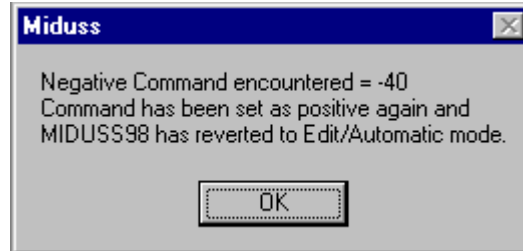

Figure 11-38 – Message displayed when MIDUSS 98 encounters a negative command number.
- MIDUSS 98 displays a message advising you what has been done as shown in Figure 11-38.